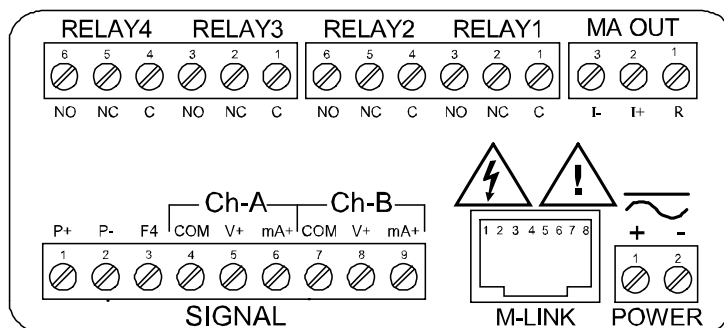

Figure 3. Connector Labeling for Fully Loaded PD6060
Power connections are made to a two-terminal connector labeled POWER on Figure 3. The meter will operate regardless of DC polarity connection. The + and - symbols are only a suggested wiring convention.
Signal connections are made to a nine-terminal connector labeled SIGNAL on Figure 3. The COM (common) terminals are the return for the 4-20 mA and the ± 10 V input signals. The two COM terminals connect to the same common return, and are not isolated.
Relay connections are made to two six-terminal connectors labeled RELAY1 – RELAY4 on Figure 3. Each relay's C terminal is common only to the normally open (NO) and normally closed (NC) contacts of the corresponding relay. The relays' C terminals should not be confused with the COM (common) terminal of the INPUT SIGNAL connector.